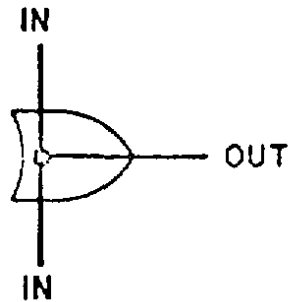

Figure 4-6. Dot OR Symbol
**4-15. Dot OR.** (See Figure 4-6). When the outputs of two or more logic circuits are connected together to perform an OR function, the logic is conveyed by a dot OR symbol.